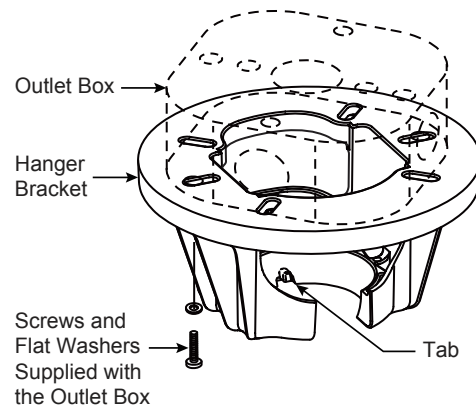
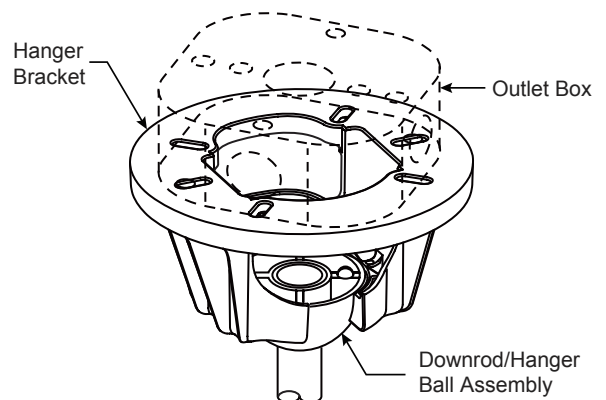

Figure 3
Figure 4
4. Slide downrod into the downrod support on top of the motor. Install the clevis pin by aligning the holes in the downrod support with holes in the downrod. Secure clevis pin with hairpin clip. Tighten the two set screws with nuts in the downrod support. Securely tighten the set screws with screwdriver then fully tighten the nuts by hex wrench. (Figure 4)
3. Carefully lift the fan and seat the downrod/hanger ball assembly onto the hanger bracket that was just attached to the outlet box. (Figure 4) Be sure the groove in the ball is lined up with tab on the hanger bracket. (Figure 3)
3. After connections have been made, put the white and green leads to one side and the black leads towards the other side, the connection should be turned upward and carefully push leads into the outlet box. The wires should be spread apart with the grounded conductor and the equipment-grounding conductor on one side of the outlet box and the ungrounded conductor on the other side. (Figure 4)
4. Assemble the light plate assembly to the motor assembly using the two key slots. Replace the previously removed screw from Step 3 and secure all three screws. (Figure 4)
- 4. Assemble the frosted PC lens to the LED plate using the previously removed screws with the provided triangle screwdriver. (Figure 4)